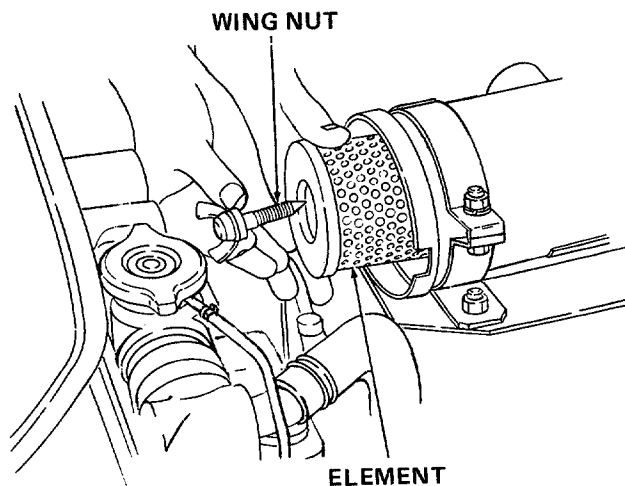

Figure 45
3. Avoid removing the element except when cleaning. To remove the element, first remove wing nut by turning counterclockwise. (See Figure 45.)